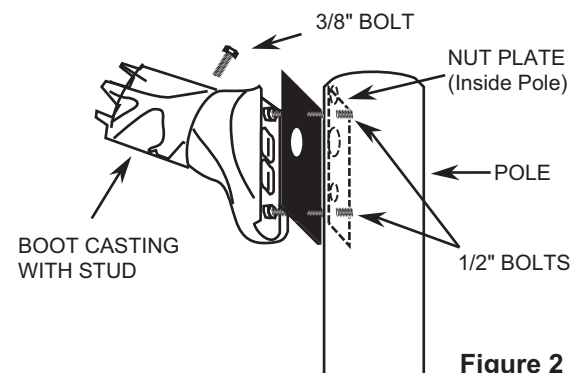

Figure 2
2. There are 2 boot castings, one has a stud protruding out mounting side. With this boot casting in hand, round portion pointing upward, peel backing off one gasket and line up with holes in casting. Line up holes of casting with holes in pole. Using ratchet with 6" extension and 3/4" socket, thread top captive bolt into nut plate (supplied with hardware kit). Insert 1/2" x 2-1/4" bolt and lock washer into lower bracket hole, and thread into nut plate (See Fig. 2). Repeat for T90, D180, TN120, D70, and Quad.